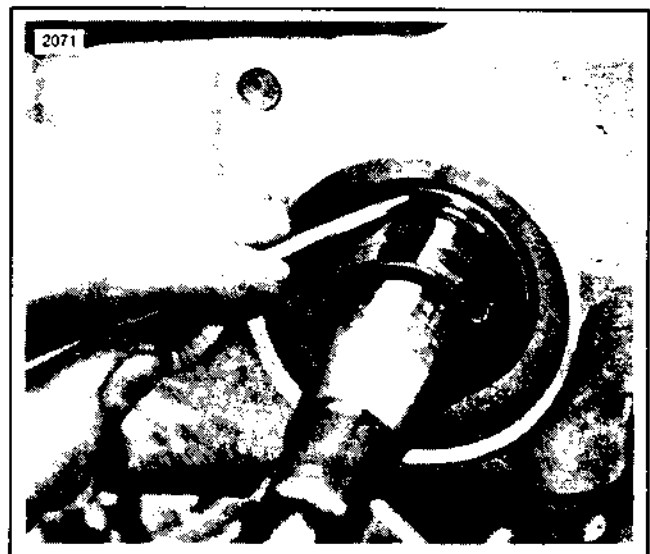

Figure 2. Testing the Bearing Hardness
11. See Figure 2. Using a scribe, awl or other suitable sharp instrument (not carbide), attempt to scratch the face of the bearing as shown. Do not attempt to scratch the bushing or bearing face area where the numbers or letters are stamped.